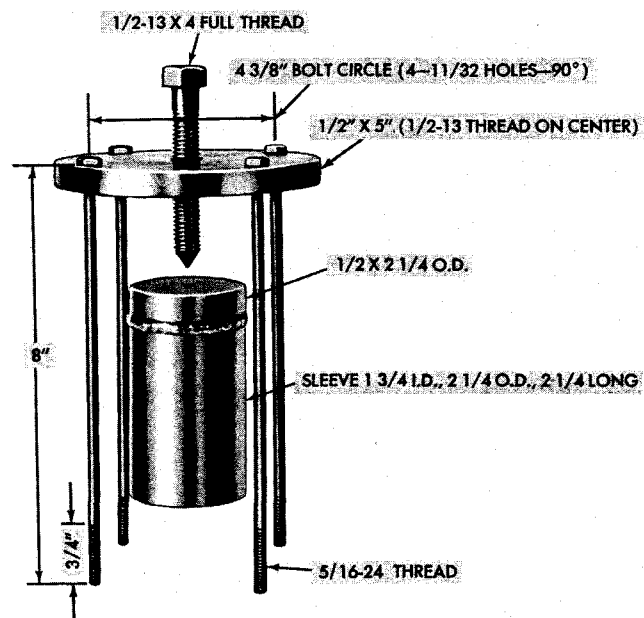

Fig. IV-1. Improvised puller for converter pump assembly
- (2) Suitable disassembly and assembly table.
- (3) Press (for removal, installation of press-fit parts).
- (4) Supply of wood blocks.
- (5) Clean wiping cloths (do not use linty waste).
- (6) Parts receptacles.
- (7) Cleaning equipment (brushes, solvent, etc.)
(8) Torque wrenches.
(9) Oil-soluble grease.
(10) Dry ice (for cooling press-fit spindles, etc.)
(11) Hot plate or heating equipment to provide oil at 200° F (for heating bearings before installation).
b. A puller kit or improvised puller is required for removing the torque converter pump, bearing and accessory drive gear from the ground sleeve. If a puller kit is not available, an improvised puller similar to that illustrated in fig. IV-1 may be fabricated. The principal dimensions are given in the illustration.